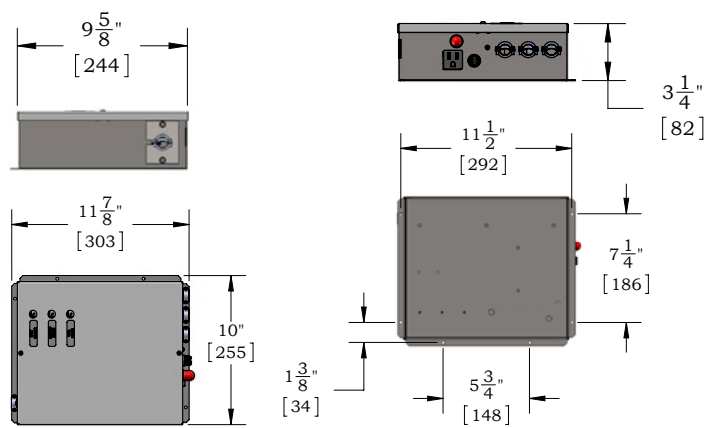
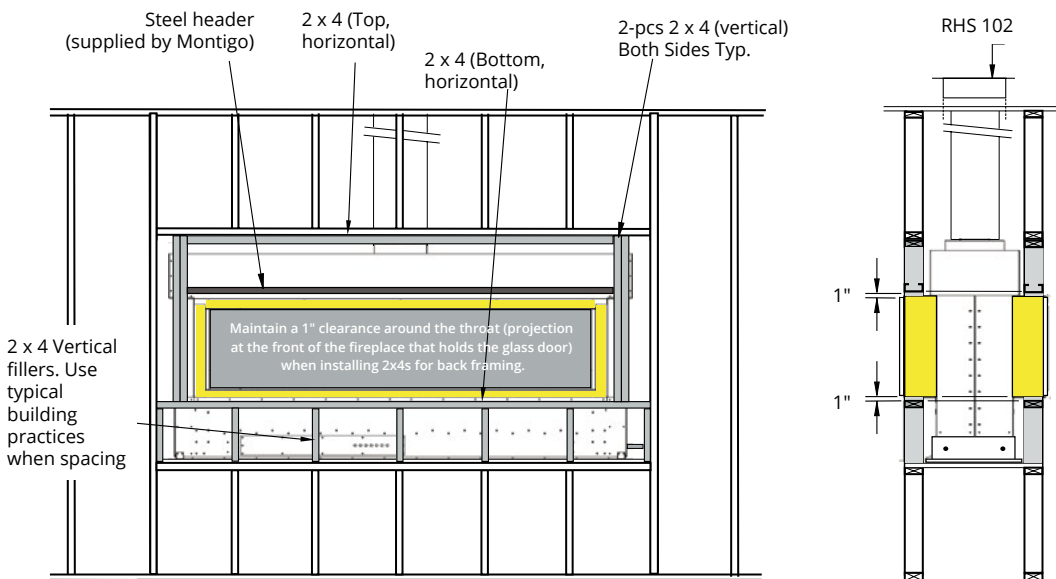

Figure 2.b Control Box Dimensions (Tolerance ± 1/8").
Figure 3.h Completed back frame Fireplace installation
Determine the height of the platform based on where you want the bottom edge of the glass to be, see figure 2 for unit dimensions. Maintain minimum ceiling height shown in table. Build fireplace frame as shown in figure 3.f
- Back -frame in the fireplace using typical framing practice, see Figure 2 on both sides and meeting clearance requirements shown on page 5. Install the non-combustible headers supplied by Montigo above the fireplace on both sides as required to attach facing. For cleanest finish ensure that the facing material is installed flush to the glass viewing area.
- Cut the Upper and Lower Horizontal 2 x 4's as shown in Figure 2. Next, cut the Required quantity of short filler 2x4's under the lower Horizontal. Follow Typical building codes and practices when spacing. Next, cut the Required Left and Right Vertical 2x4's as shown in Figure 3.
- Lastly, install the Two (2) Supplied Steel Headers above the fireplace throat positioned to attach facing material. NOTE: When this assembly is in place, ensure ALL the required clearances to combustibles are maintained.